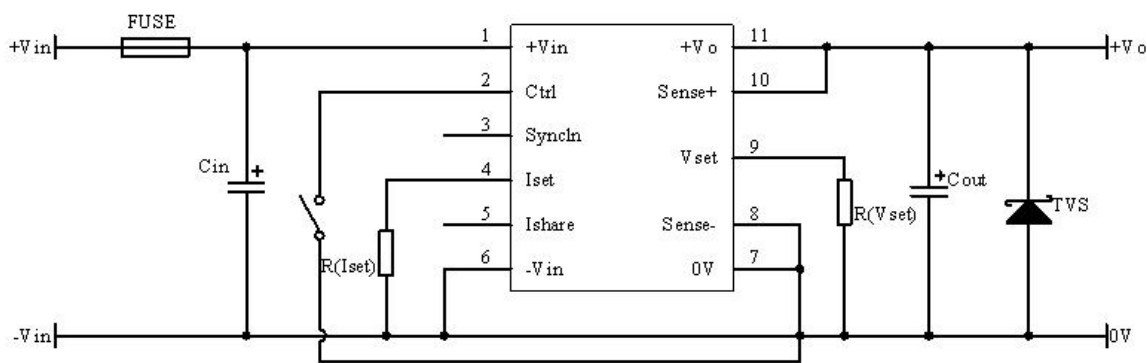

Fig.3
- (1) During product testing and application, please follow the recommended test circuit (Figure 3); At least one electrolytic capacitor  $C_{in}$  ( $\geq 560\mu F$ ) is guaranteed to be connected externally to suppress the possible input surge voltage;
- (2) If the input terminal of the product is connected in parallel with a circuit with large transient energy (such as a parallel motor drive circuit), the input voltage of the product may be pulled down. At this time, pay attention to the fluctuation of the input voltage of the product, and it is recommended to appropriately increase the capacitance of the electrolytic capacitor  $C_{in}$  at the input terminal to ensure the stability of the input terminal voltage and avoid the situation where the input voltage is lower than the under-voltage protection point and cause the product to restart repeatedly;
- (3) If the output end of the product is inductive load (such as relay and motor), it is recommended to increase the output capacitance  $C_{out}$  capacitance within the capacitive load specification and add TVS tubes to filter out voltage spikes;
- (4) If the input and output ripple needs to be further reduced,  $C_{in}$  and  $C_{out}$  capacity of external capacitors can be appropriately increased or external capacitors with small series equivalent impedance can be selected.  $C_{out}$  capacity of external capacitors cannot be greater than the maximum capacitive load of products.
- (5) When ctrl is used, it can be directly connected to 0V Pin to achieve output enable control, and the independent line from the 0V pin is used as the reference point of ctrl.